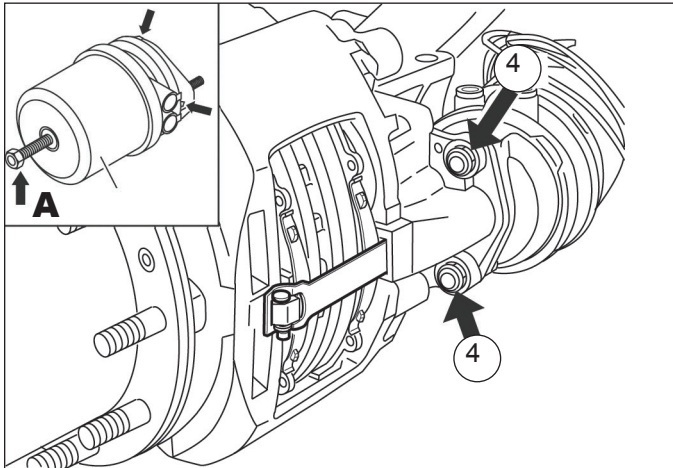

Figure 3 – Actuator Spring Caging and Removal
1. With the vehicle on a level surface and the wheels properly chocked, apply air to release the spring brakes (parking brakes) by using the dash-mounted air control valve. Back out the release bolt (See *Figure 3*, arrow "A"), using a maximum torque of 26 ft-lbs (35 Nm) to cage the air released spring force on the pushrod.
2. Exhaust the air from the spring brake chambers by using the dash-mounted air control valve. While supporting the chamber in position, remove and discard the brake chamber mounting nuts (Item 4) (See *Figure 3*). Mark the orientation of the chamber to the mounting bracket for remounting. Remove the spring brake chamber. If it becomes necessary to disconnect the air hoses to the chamber, with all air pressure drained from the system, mark the hoses for reconnection and then disconnect the hoses from the chamber.
2. Position the spring brake chamber in the same orientation it was removed. Secure the chamber with the spring brake chamber mounting nuts (Item 4). See Figure 3. Alternately tighten both the nuts step-by-step up to a final torque of 133 ± 7 ft-lbs (180 ± 10 Nm). **Do not reuse the nuts that were removed during the disassembly.**